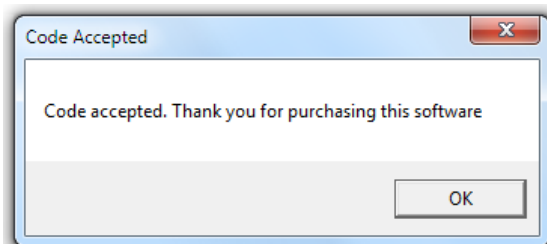

Figure 2-10, Code Accepted Confirmation Dialog
- 6) Enter the **Activation Code** and click the **Activate** button. If the code is correct then the Code Accepted dialog, figure 2-10, will be shown.